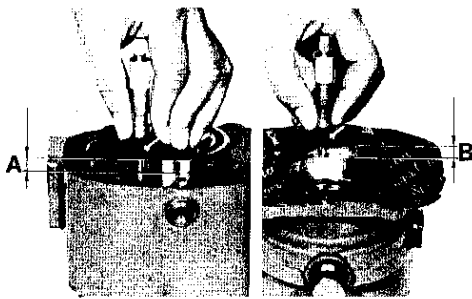

Fig. 16
2. Measure on the intermediate housing the distance from the outer bearing race to the rear end of the housing (A, Fig. 16).
3. Measure the depth on the corresponding recess in the rear housing (B, Fig. 16). NOTE! The old gasket should be included in the measurement. Fit or remove a requisite number of shims so that there is a clearance of 0.1–0.2 mm (0.004–0.008").
1. Measure on the intermediate housing the distance from the outer bearing race to the rear end of the housing (A, Fig. 16).
2. Measure the depth on the corresponding recess in the reduction gear (B, Fig. 16). Note! The old gasket must be included in the measurement.